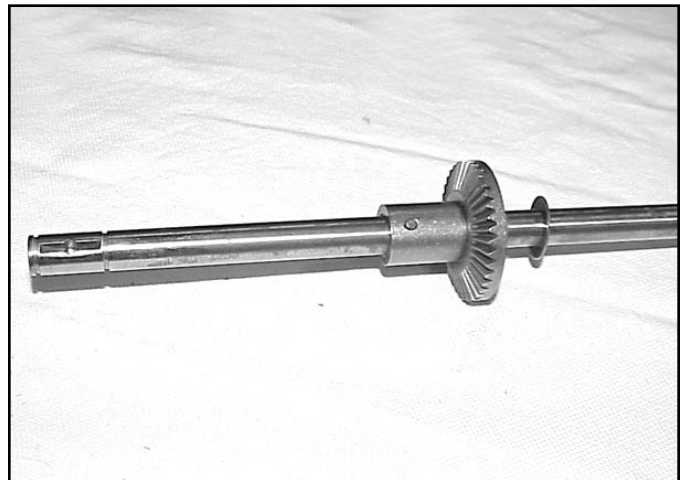

Fig 108
Rear wheel drive models use the hole about 4-3/4" (12cm) from the end. Slip the gear on such that the teeth and the longest hub face the short end of the axle. Drive the pin into place. A double check is that neither of the pin holes should be visible when the gear is installed (Fig. 108).
2. Install the thrust washer on the side of the gear with the shortest hub, away from the gear teeth (Fig. 108).